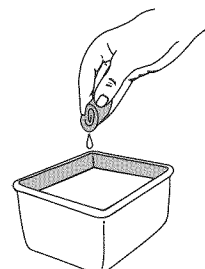

Fig. 15
3. Wash the filter in detergent and water (Fig. 15). Rinse the filter thoroughly and allow it to dry.